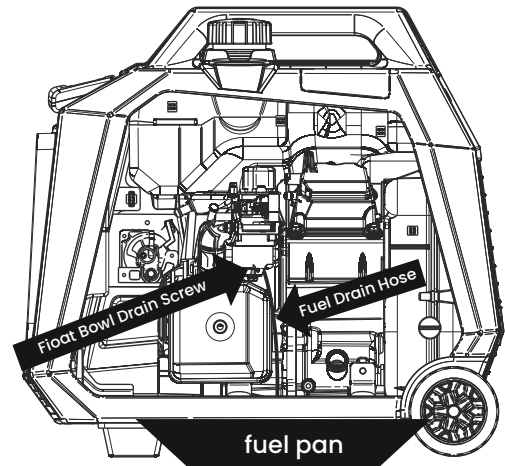

Figure 19: Fuel drain hose
2. Locate the clear plastic hose from the float that is exiting out the bottom of the inverter, and place a suitable container under it to catch the drained fuel (see Figure 19).